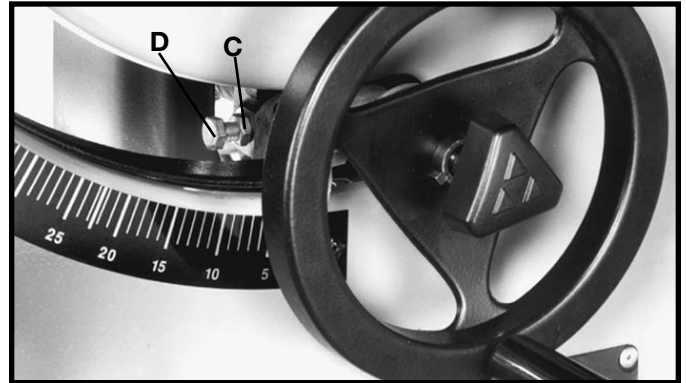

Fig. 123
5. Turn the blade tilting handwheel counterclockwise as far as it will go. Using a square, check to see if the blade is at 45 degrees to the table. If an adjustment is necessary, turn the blade tilting handwheel clockwise until the adjusting screw (D) Fig. 123, and locknut (C) are in view, in the opening in the front of the saw cabinet, as shown. Loosen locknut (C) and tighten or loosen adjusting screw (D) until head of screw (D) contacts casting on front trunnion when the blade is at 45 degrees to the table. Then tighten locknut (C).